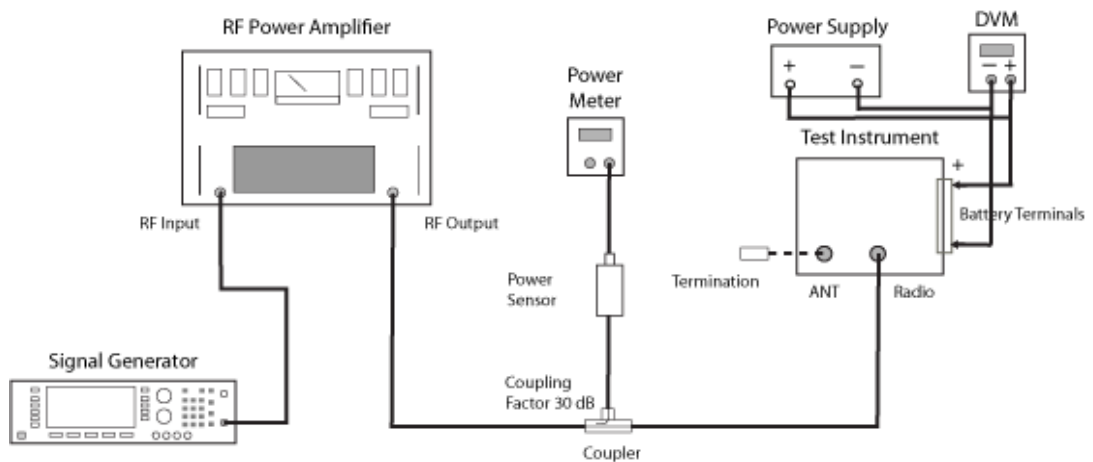

Figure 7 Battery Current Draw Test Setup
- 2 Connect the equipment as shown in Figure 7.